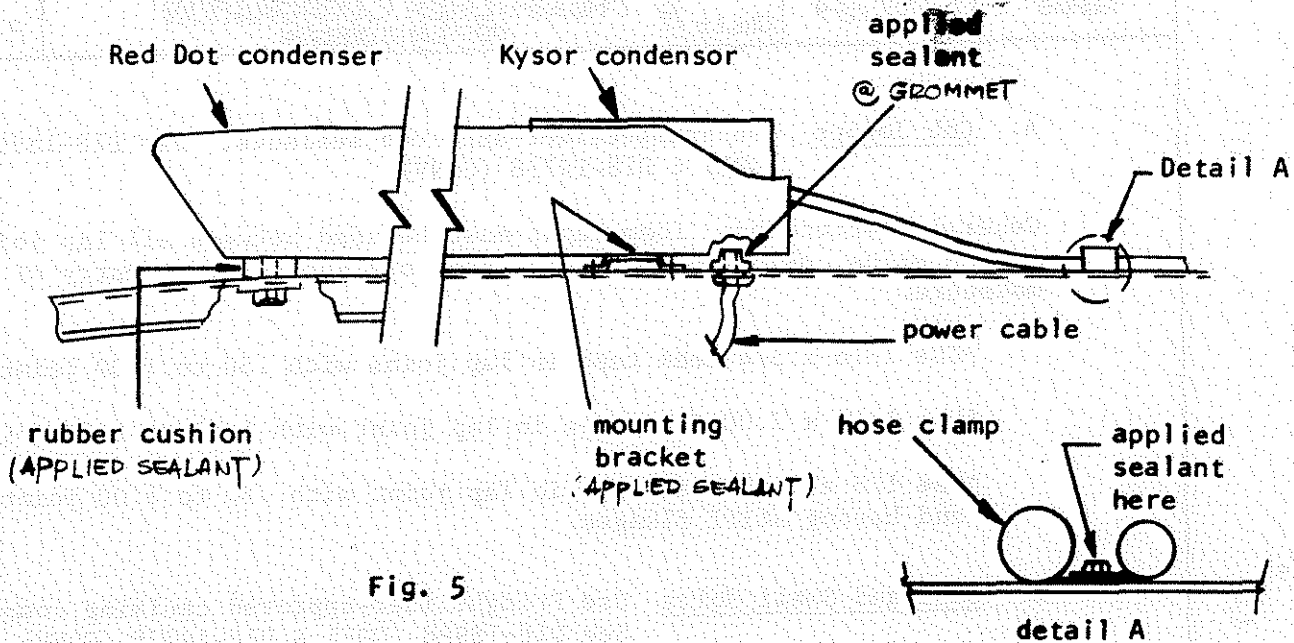

Fig. 5
6. On roof mounted condenser (See Figure 5, Page 5), silicone rubber sealant must be applied at the following: Contacting surfaces between the roof and rubber cushions (Red Dot), Mounting brackets (Kysor), Hose clamps, and also at mounting bolt heads and rubber grommet where power cable getting into cab (23-10998-10).